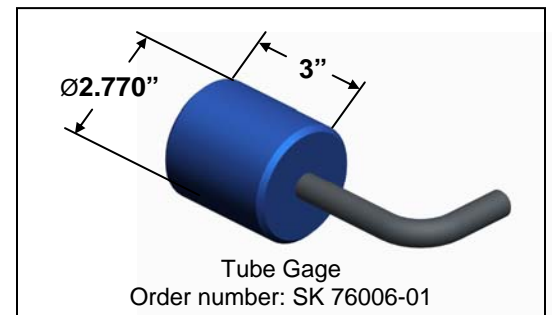

FIGURE 5
- c. It is recommended to use a Tube Gage to verify the all of the rust has been removed from the I.D (see figure 5).